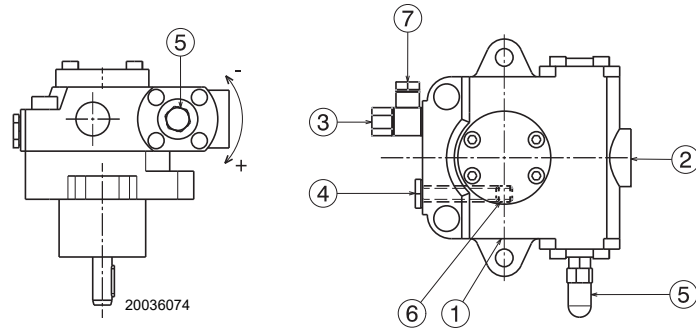

Fig. 26
- For self-priming to take place, the screw 3)(Fig. 26) of the pump must be loosened in order to bleed off the air contained in the suction line.
Key (Fig. 26)